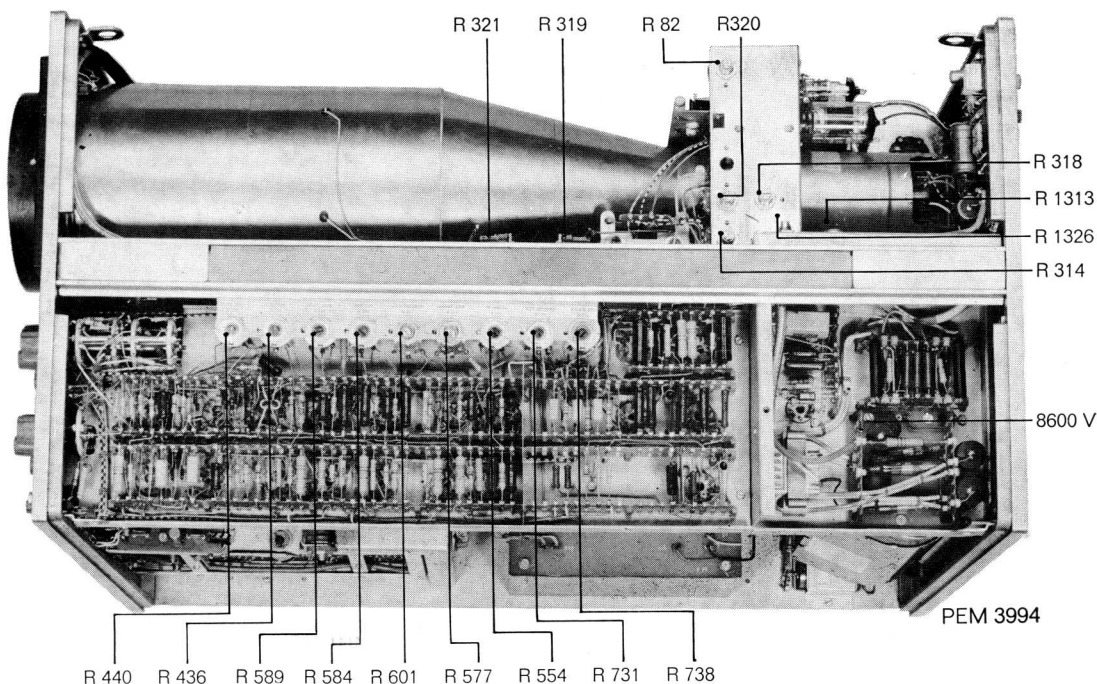
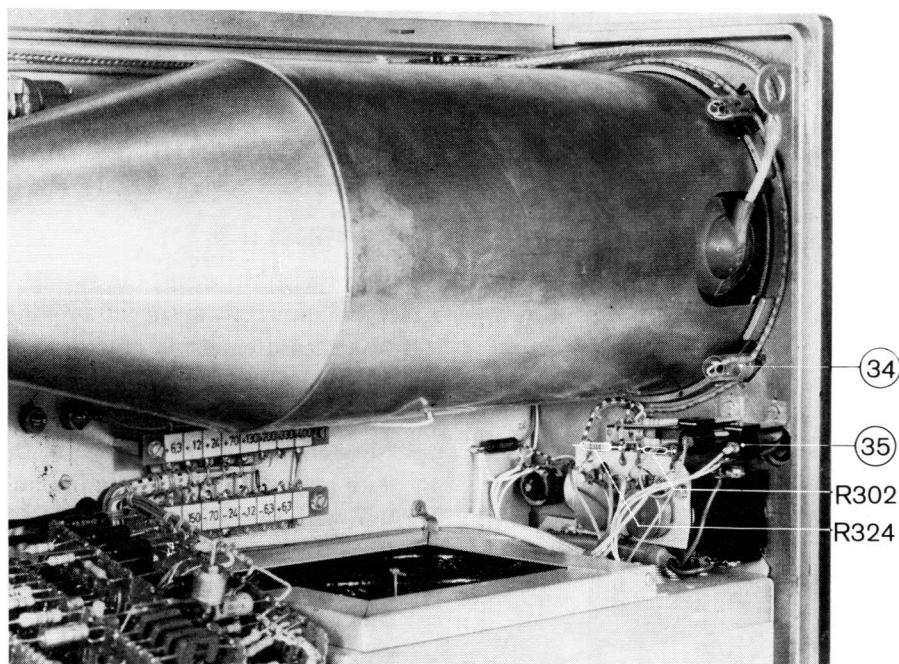
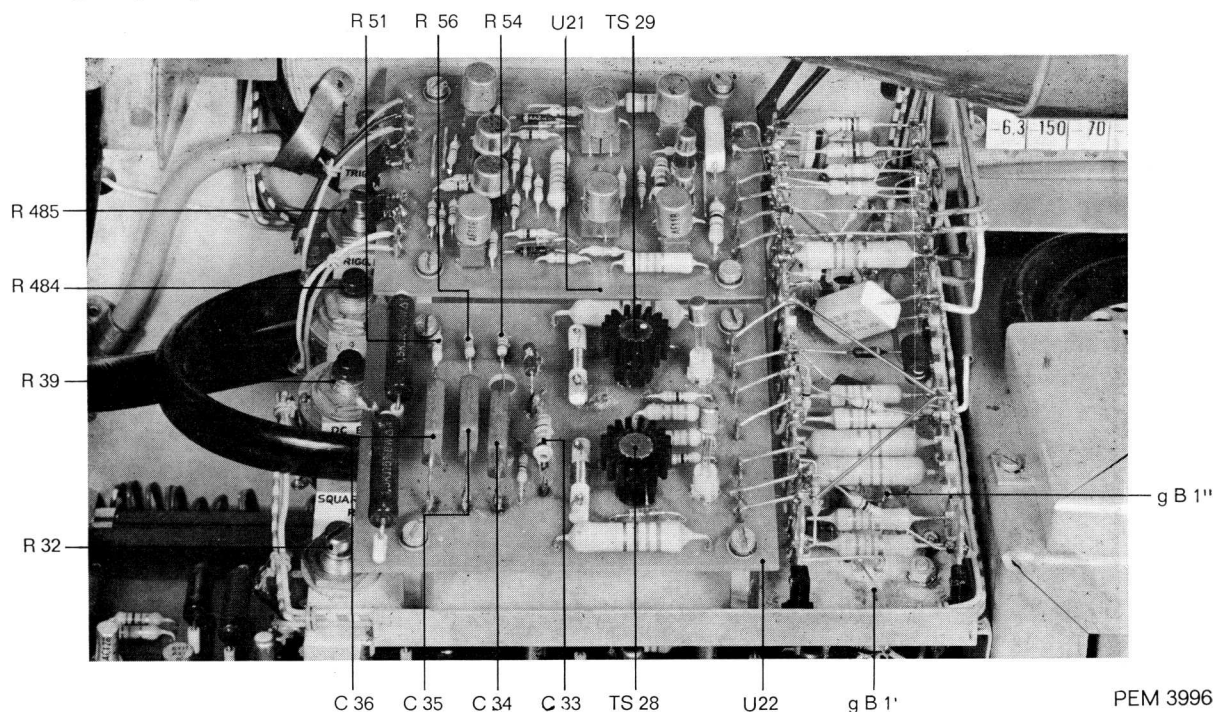

Fig. 54. Top-view of the interior
Fig. 56. Close-up of the rear of the CRT controls
Fig. 62. Close-up of the delay line driver and the trigger amplifier
R 1326 (Fig. 54)
R 320 (Fig. 54)
- The voltage difference between the interconnected Y-deflection plates and point g7 of the CRT (connection point 7 of the tube holder) should be adjusted to 0 V with potentiometer "SHIELD" (320)
2. Beam centring R314 (Fig. 54)
R1313 (Fig. 54) R302 (Fig. 56) R306 (Fig. 69)
R319-R321 (Fig. 54)
R324 (Fig. 56)
R318 (Fig. 54)
R82 (Fig. 54) R39 (Fig. 62)
- Interconnect the control grids of B1 and B1'. (Fig. 62) When using the test-unit PM 3361 this can be effected by depressing button "DC-BAL." while the test selector is in position "POWER SUPPLY".
R731 (Fig. 54)
C33-C34-C35-C36-R51-R53-R54-R56 (Fig. 62)